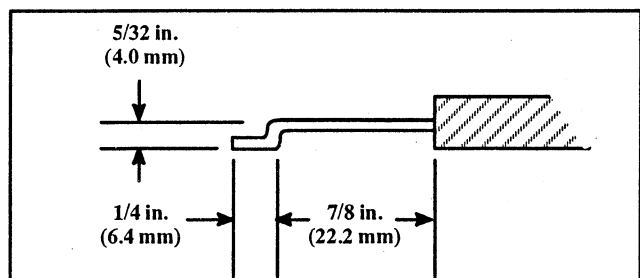

Figure 7-3. Cable Mounting Dimensions
4. Bend cable rod using dimensions shown in Figure 7-3. Install cable rod through hole in choke lever, slide cable under clamp and tighten screw. Cable outer-casing should be about flush with end of mounting clamp.